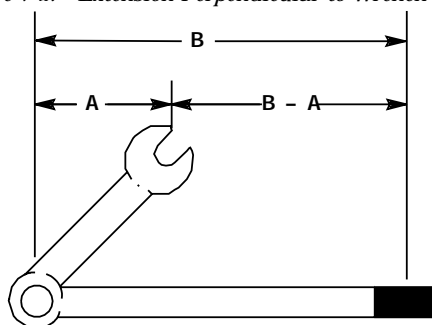

Figure 7-3. Extension Used When Total Length is Less Than Handle Length
c. When wrenches are attached similar to figure 7-3, the equation is: